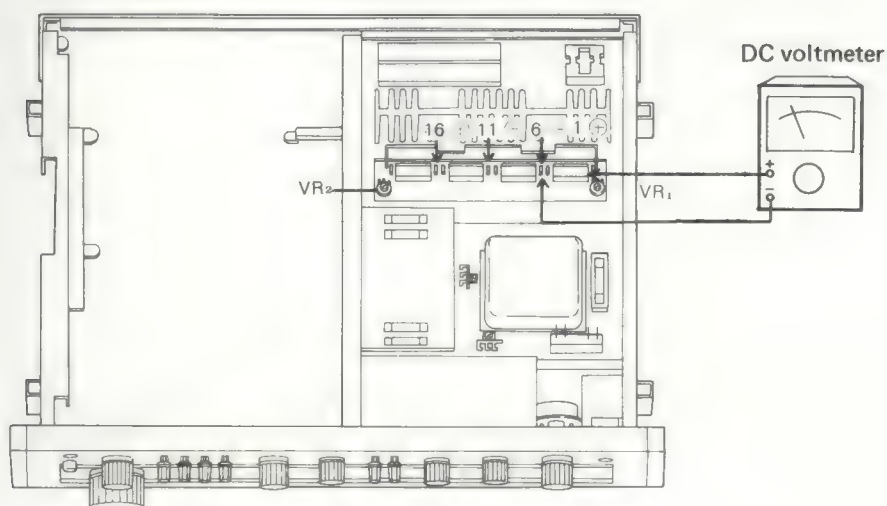

Fig. 17
1. Connect DC voltmeter as shown in Fig. 17.
3. Turn VR1 and VR2 (shown in Fig. 17) fully counter-clockwise, then set POWER switch to ON.